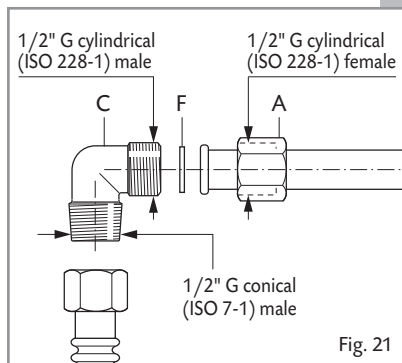
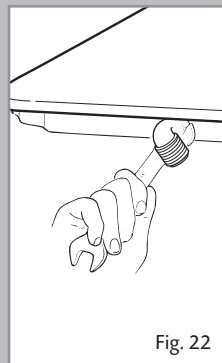

Fig. 21
Fig. 22
The fitting (fig. 21) is made up of:
- The gas inlet union can be turned in the direction required after the elbow fitting **C** and nut **A** connection (figure 21) has been slackened (fig. 22).
- The gasket **F** (fig. 21) guarantees the seal of the gas connection. It is recommended that it be replaced whenever it shows even the slightest deformation or imperfection.